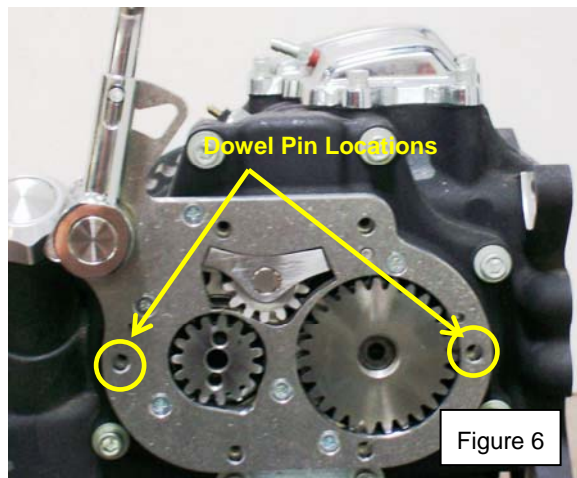

Figure 6
3.17 Position reverse gear housing and new gasket (supplied) to transmission as shown. Figure 6
3.19 Install the two 3/16" x 3/4" long dowel pins to the reverse gear housing. Figure 6